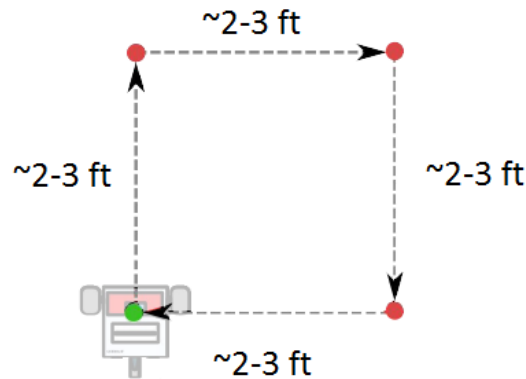

Figure 11: Square Robot Motion
- Write a program to move the robot in a square path with sides specified in the function (see Figure 11).